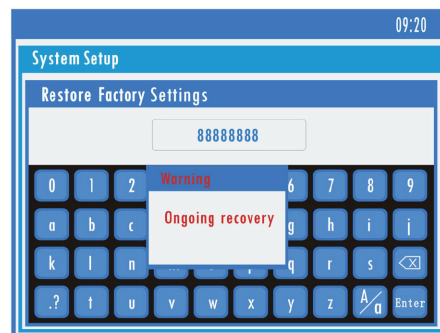

Fig 5-23 Ongoing Recovery
- Steps: Enter system setup, select default setup, then enter password, click Enter on lower right corner, then system starts default setup (**Fig 5-23**), a moment later system will back to system setup.